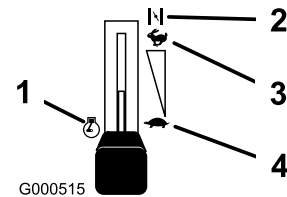

Figure 10
3. Move the throttle lever to Choke before starting a cold engine (Figure 10).
5. After the engine starts, move the throttle lever to Fast (Figure 10). If the engine stalls or hesitates, move the throttle lever back to Choke for a few seconds. Then move the throttle lever to the desired setting. Repeat this as required.
1. Move the throttle lever to Fast (Figure 10).